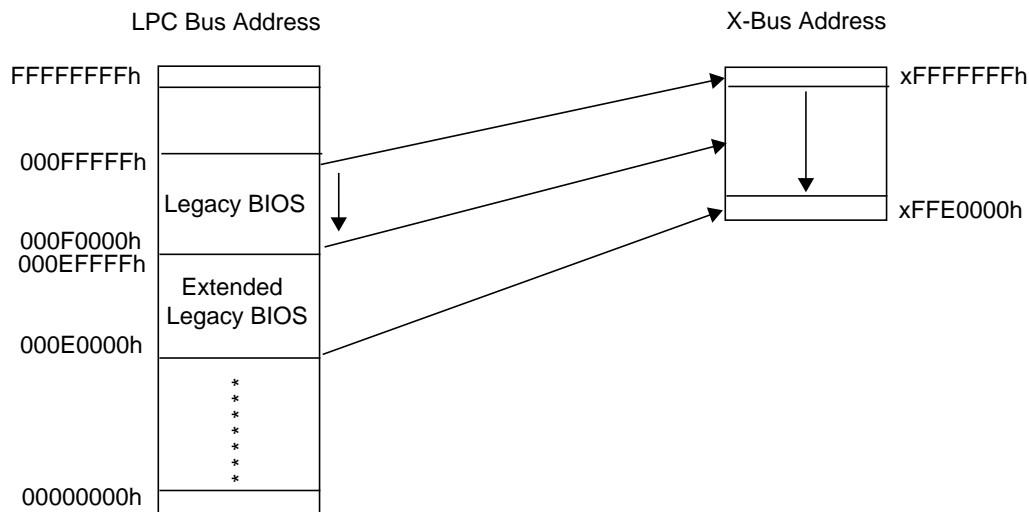

Figure 23. LPC to X-Bus Address Translation: Legacy and Extended Legacy BIOS Ranges
- Legacy and Extended Legacy BIOS Range - The 17 least significant bits (A16-0) of the LPC address are routed as the 17 least significant signals address lines of the X-Bus (XA16-0). The upper 11 X-Bus address lines are driven to 1. This shifts the addresses to the end of the X-Bus memory space (see Figure 23).